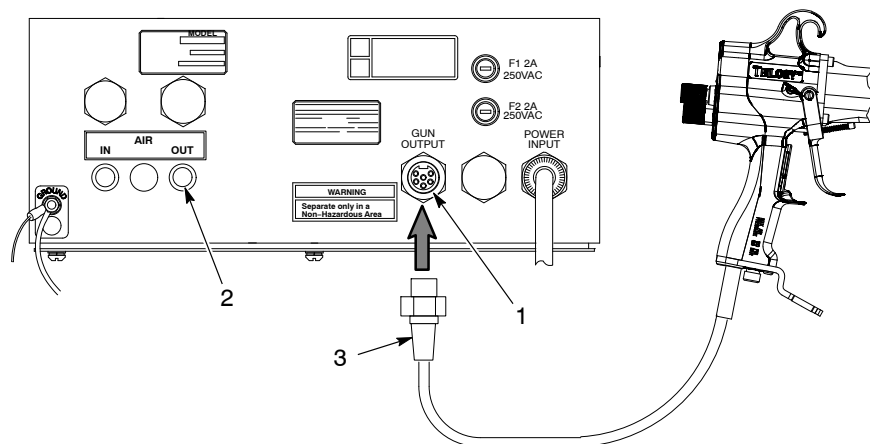

Figure 3-3 Gun Cable Connection
2. See Figure 3-3. Connect the air hose from the air OUT fitting on the gun control unit to the  $\frac{1}{4}$ -in. NPSM fitting in the spray gun handle.
See Figure 3-3. Connect the gun cable plug (3) to the GUN OUTPUT receptacle (1) on the rear panel of the control unit. Refer to the gun control unit manual for installation and operation information.